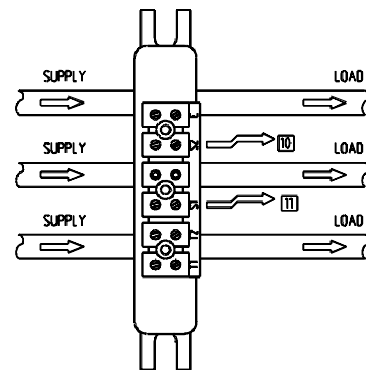

Figure 6.1 Wiring Of CT
The secondary (output) terminals of the CT are labelled S1 and S2 these should be wired to the ELR101 terminals 10 and 11 respectively as shown in Figure 6.1. An Earth terminal (E) is provided for systems where earthing of the CT secondary is preferred. This is connected to S2 by the CT.